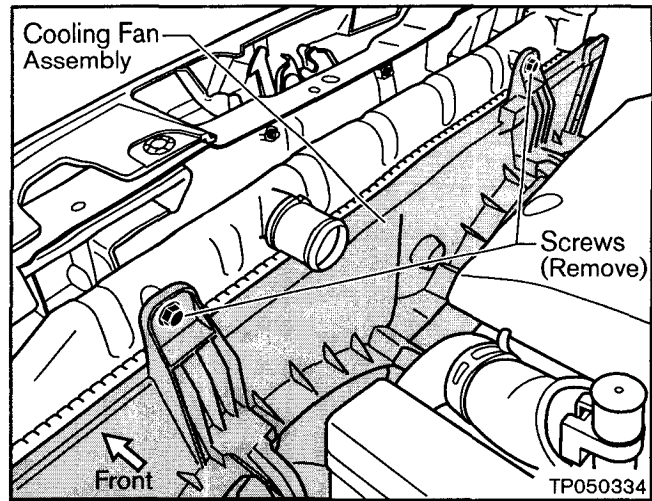

Figure 14
- b. Remove two Screws that secure the top of the Fan Assembly (see Figure 14).